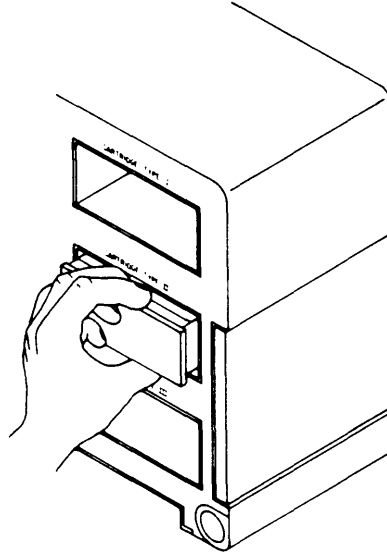

Figure 2
2. Grasp the plastic cover plate in the middle right section of the control unit panel marked Cartridge Type II and pull to remove it as shown in Figure 2.